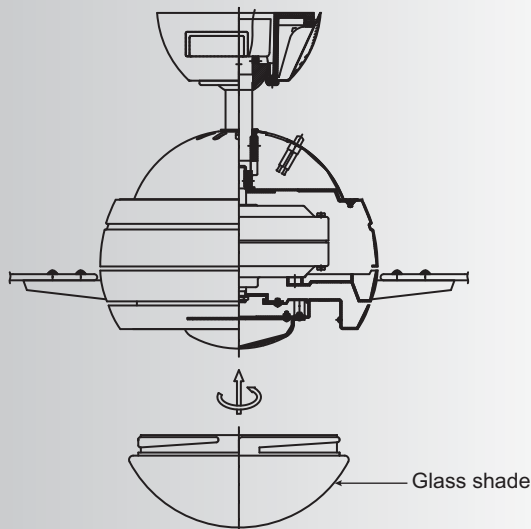

Fig. 20
Step 4. Raise the glass shade against the LED light kit and turn clockwise until snug, **DO NOT OVERTIGHTEN.** (Fig. 20)